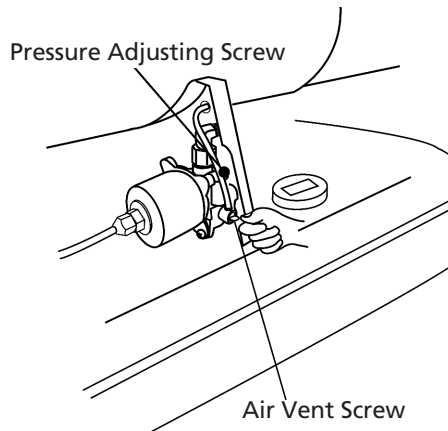

Figure 17 – Pump Pressure Adjustment
4. Adjust pump pressure by turning pressure adjusting screw. See Figure 17.